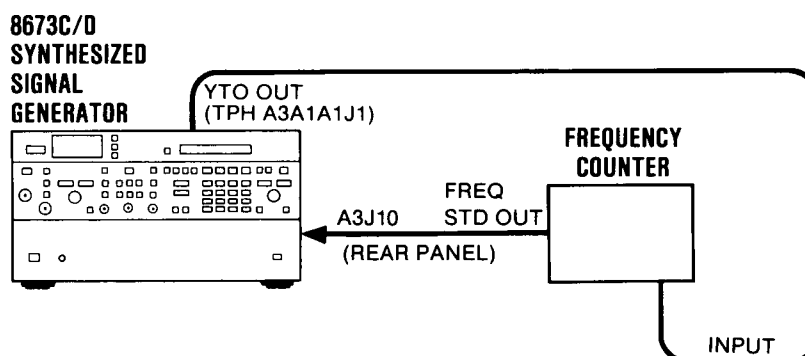

Figure 8-20. HP 8673C/D Baseband Frequency Test Setup
- 34. Disconnect the semi-rigid coax from the output of coupler A3A1A1J1 (BD1 TPH), and connect the frequency counter in its place (frequency counter should be connected as in Figure 8-20). Refer to BD1, top and bottom view drawings for test point locations.